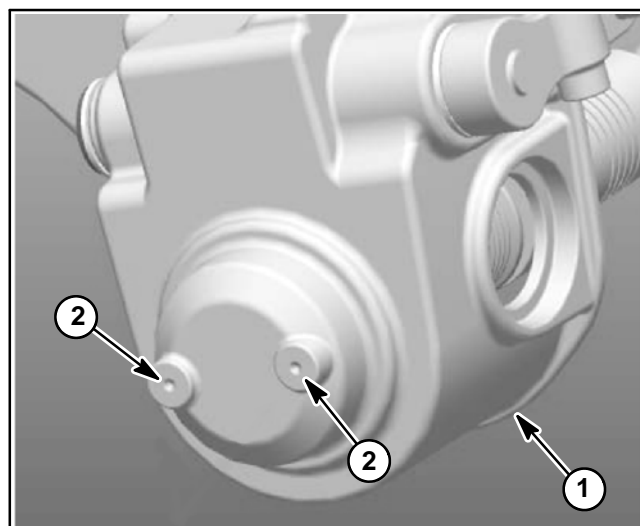

Figure 40
2. Carefully drill two (2) No. 7 (0.201" diameter) holes in the transmission housing using the dimples in the housing as centers for the holes (Fig. 40). Holes should be drilled completely through the housing allowing external access to the ball bearing on the reel shaft.